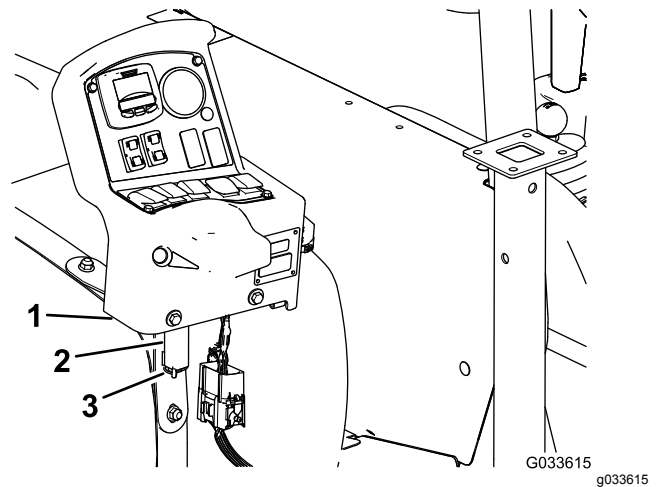

Figure 129
7. Remove the console from the console-mounting bracket at the dash of the machine and align the pivot pin on the control console with the storage bracket at the front tank strap (Figure 129); refer to Installing the Control Console to the Machine \(page 24\).
8. Assemble the console to the bracket and secure the pivot pin to the bracket with the hairpin (Figure 129).